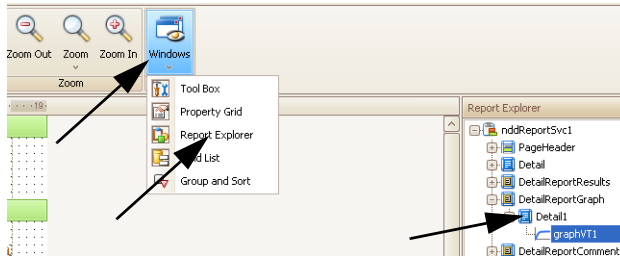

Fig. 12-8: Windows, Report Explorer, Detail Report Graph buttons
- Select **Windows** and then **Report Explorer** (Fig. 12-8:).
- Select **Detail Report Graph** (Fig. 12-8:).
- Click the small arrow in the upper right corner of the *Detail Report Graph* window (Fig. 12-8:).